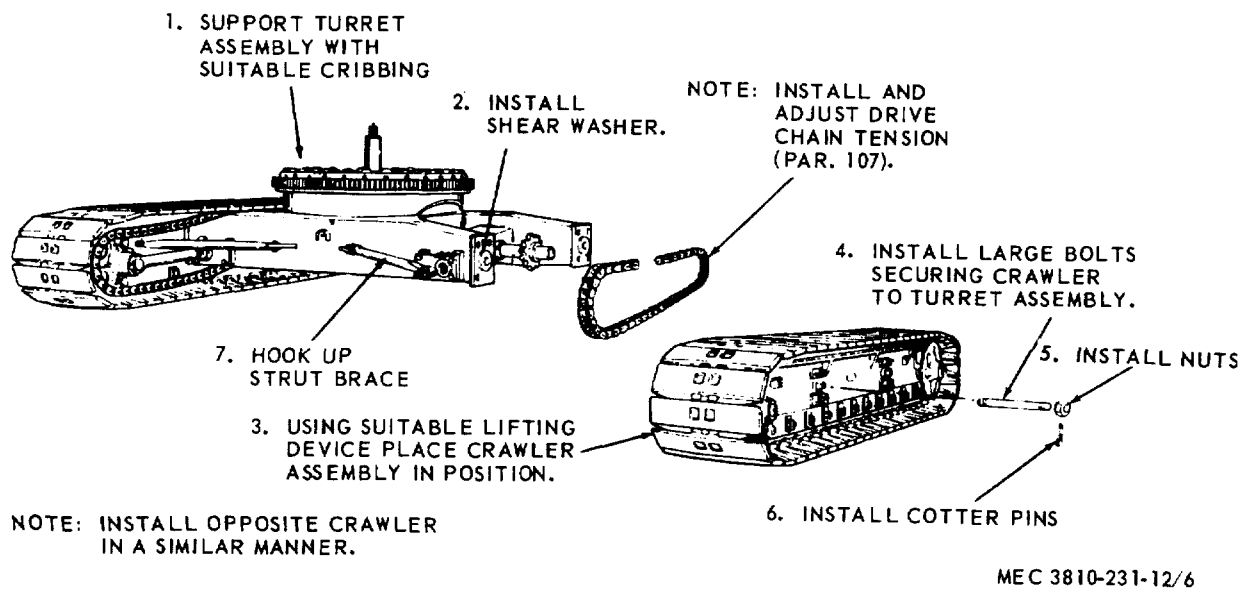

Figure 6. Unloading crane and installing crawler assemblies.
c. Removal of Crane Unit by Overhead Crane. Attach the necessary slings to the hook of the overhead crane and remove crane unit from flat car or carrier. Refer to figure 6.
assemblies (fig. 6), and boom assembly (para 42), raising gantry (para 18) and installing counterweights (para 41) on the basic unit.
A movement of any distance requires a railroad flatcar or machinery trailer capable of handling 95,000 lbs. (pounds) for transporting the crane, The boom assembly (para 42), crawler assemblies (fig. 6), and counterweights (para 41), must be removed and gantry lowered (para 18) to provide clearance.